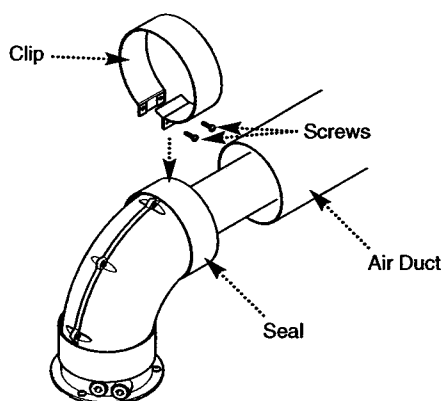

Fig. 25
13. Draw the air duct out of the wall and align it with the elbow. Position the seal so that it equally covers the joint (Fig. 25).
14. Remove the screws from the second clip provided. Prise the clip apart and fit it over the seal. Refit the screws to the clip and tighten them (Fig. 25).